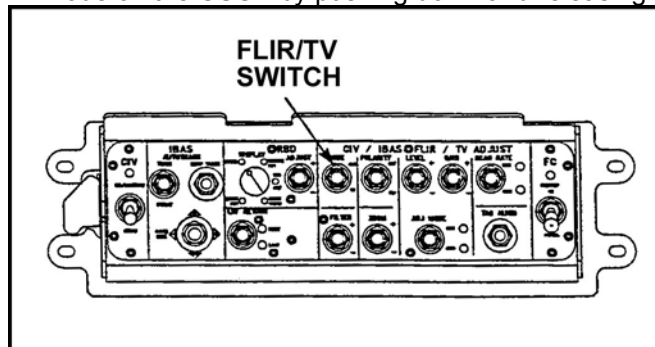

Figure 9. CSCP FLIR/TV switch.
- (1) Select FLIR mode on the CSCP by pushing down and releasing the switch (Figure 9).